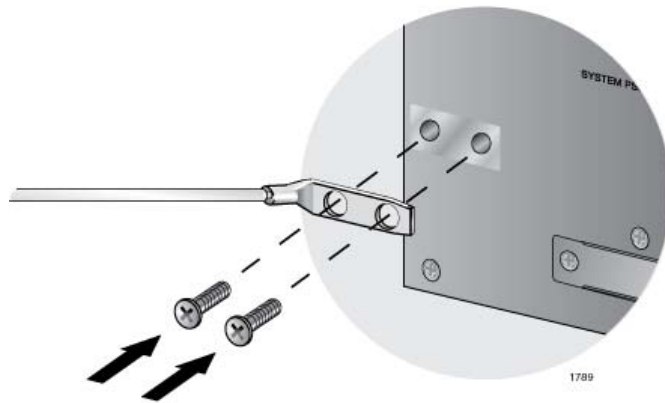

Figure 40. Installing the Grounding Lug and Wire
4. Install the grounding lug on the rear panel of the chassis, as shown in Figure 40.